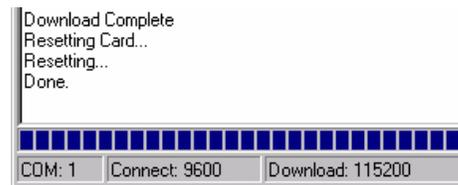

Figure 15: Update Process Complete
7. The receiver should finish downloading and reset. The process is complete when "Done." is displayed in the main display area, see *Figure 15* on *Page 139*.